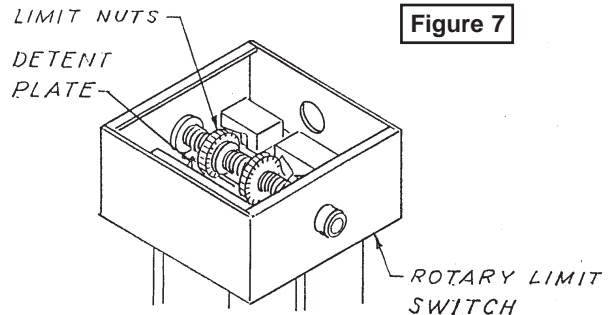

Figure 7
- Adjust limit nuts by releasing the detent plate and turning the nuts in the desired direction (Figure 7). A complete turn allows the door to move 4–6 inches. Be sure the detent plate is properly locked into both limit nuts when adjustment is complete.